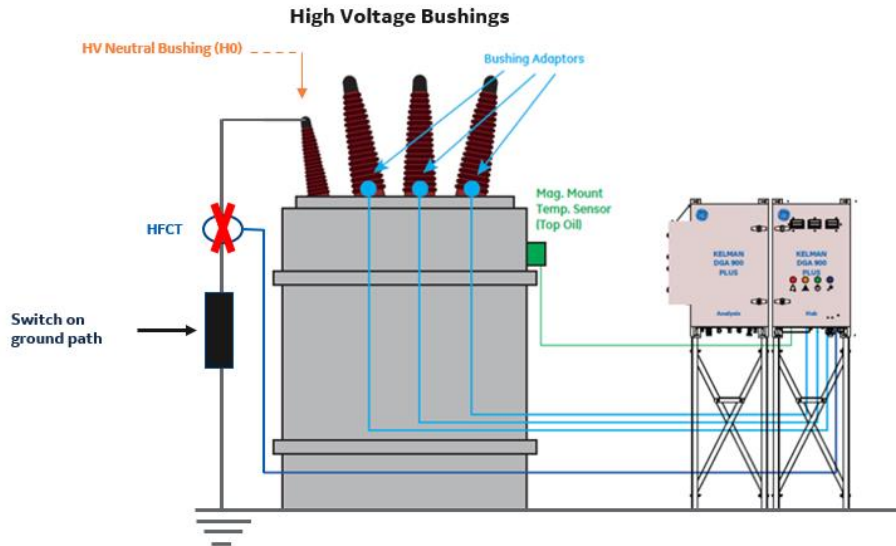

Figure 9-13: HFCT cannot be installed if a switch is on cable from the Neutral Bushing to ground
**WARNING:** If there is a switch on the path to ground from the high voltage neutral bushing as shown in Figure 9-13, the HFCT must **NOT** be installed between the switch and the neutral bushing, because if for any reason the switch is opened there will no longer be a direct path to ground causing a potentially hazardous condition.